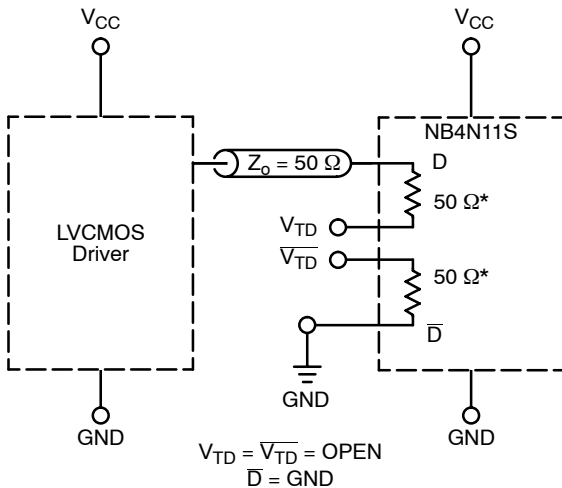

Figure 11. LVCMOS Interface
**DIFFERENTIAL INPUTS DRIVEN SINGLE-ENDED** (Figures 11, 12, 16, and 18)